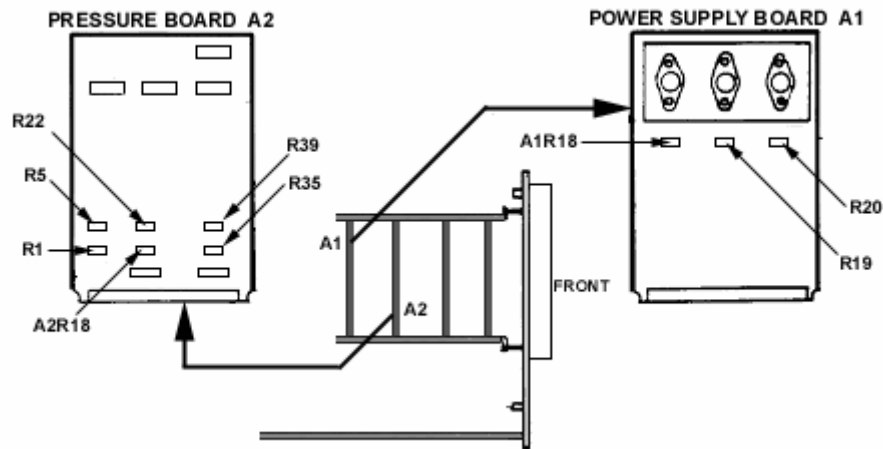

Figure 4. Simulator unit - internal left view.
(1) Set autotransformer and dc power supply to **OFF**, and calibrator to **STBY**.
(2) Remove pressure board A2 (fig. 4) and reinstall, using extender board.
(3) Set autotransformer, dc power supply, and calibrator power to **ON**.
(4) Adjust R5 (fig. 4) for a 3.591 V ac indication on multimeter (R).
(5) Turn **ENGINE OIL PRESS NO. 1** variable control fully cw.
(6) Adjust R1 (fig. 4) for a 3.591 V ac indication on multimeter (R).
(7) Adjust R22 (fig. 4) for a 3.591 V ac indication on multimeter (R).
(8) Turn **ENGINE OIL PRESS NO. 2** variable control fully ccw.
(9) Adjust A2R18 (fig. 4) for a 3.591V ac indication on multimeter (R).
(4) Adjust R39 (fig. 4) for a 3.591-V ac indication on multimeter (R).
(5) Turn **XMSN OIL PRESS** variable control fully ccw.
(6) Adjust R35 (fig. 4) for a 3.591 V ac indication on multimeter (R).
(7) Repeat **a** (2) through (6) above and adjust for best in-tolerance condition.